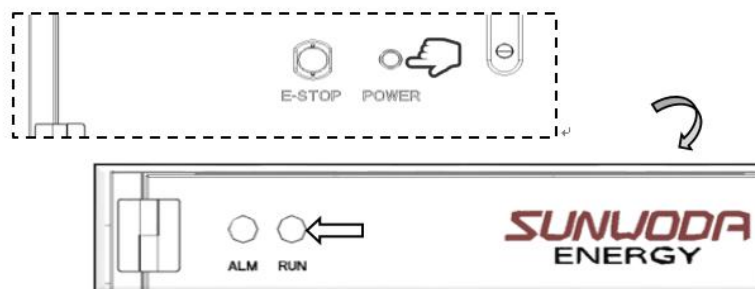

Figure 4.2.2
Step2: Press the front door POWER button for 3S, the green indicator light blinks steadily for 1s once to turn on the battery (Figure 4.2.2).